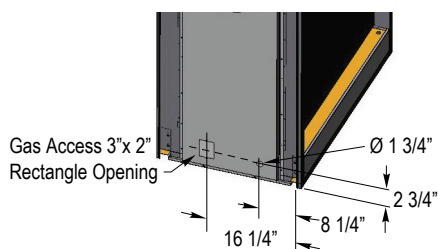

Figure 19. Gas line access.
- See Figure 19 below for location of gas line access.